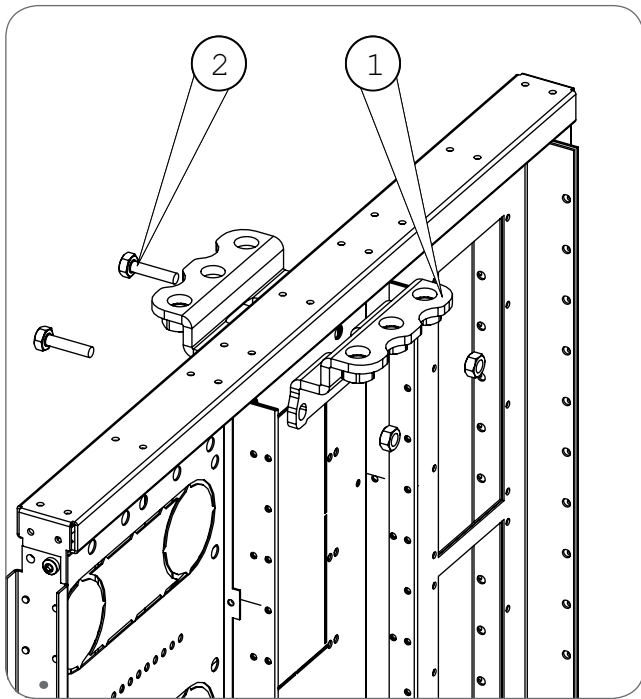

Fig. 2.37. Installing lugs for lifting loops.
For lifting elements, lugs for lifting loops are installed inside the frame plates, one lug for each 500 kg lifting loop, Fig. 2.37. The lugs for lifting loops (1) are fastened to frame plates using M8x20 hex head screws and nuts (2).